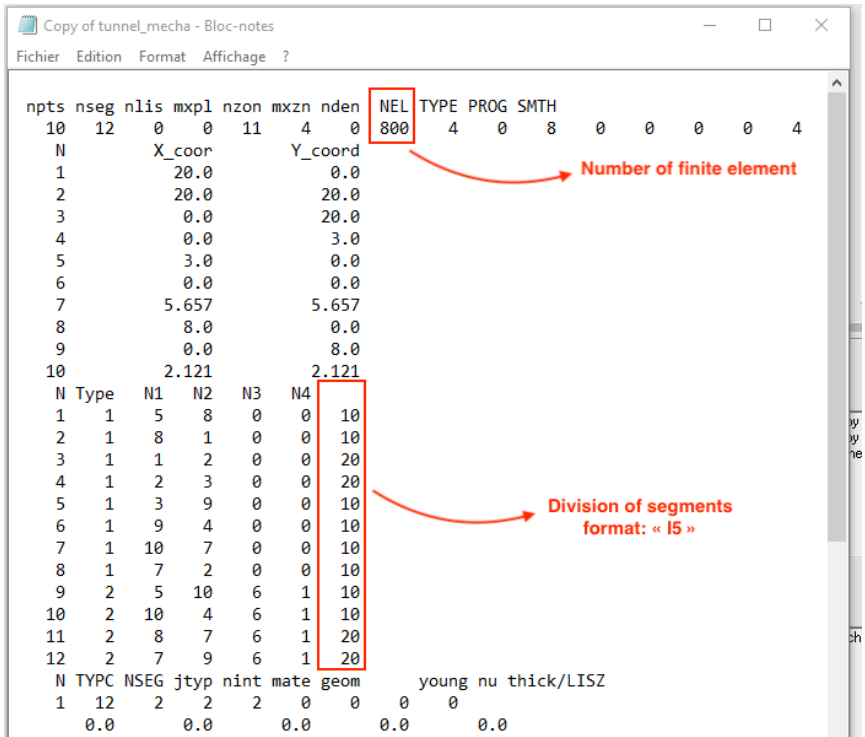

Figure 6.9 .GML file
6. Save your progress, quit the *Geometry* window and open the *.GML* file, the geometry can be manually updated here. Increase the total number of finite elements *NEL* from 200 to 800 (Figure 6.9) and assign the division of the segments as defined in Figure 6.9. It is important that the division of segments is symmetrical to obtain a good mesh. At last, execute *GMAILL* to create the *.LAG* file.